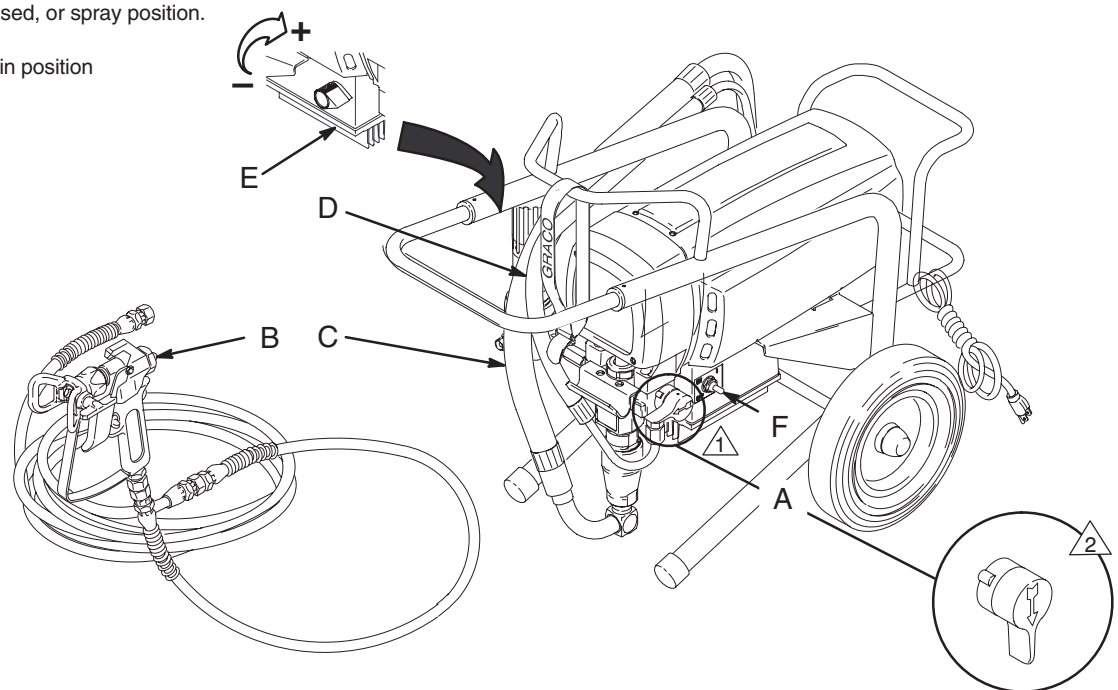

Fig. 8
1. **Open pressure drain valve (A).** See Fig. 8.
3. **Put suction hose or tube (C) into paint.** If you are pumping from a 1 gallon (5 liter) pail, push drain hose (D) down below top of pail to avoid splashing paint when drain valve is opened.
4. **Turn pressure knob (E) to minimum setting.**